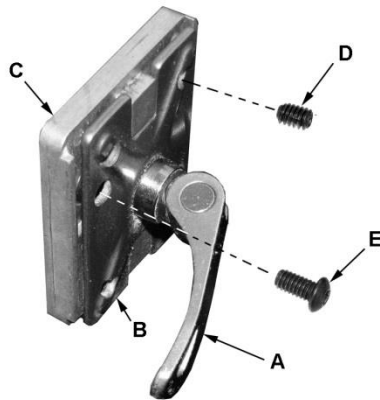

Figure 25
4. Use a 3mm hex key to make adjustments to four set screws (D, Figure 25) accessible
through openings located in the corners of the clamp plate (B, Figure 25).
Refer to Figure 25.
8. Use a 5mm hex key to loosen two socket head button screws (E, Figure 25).